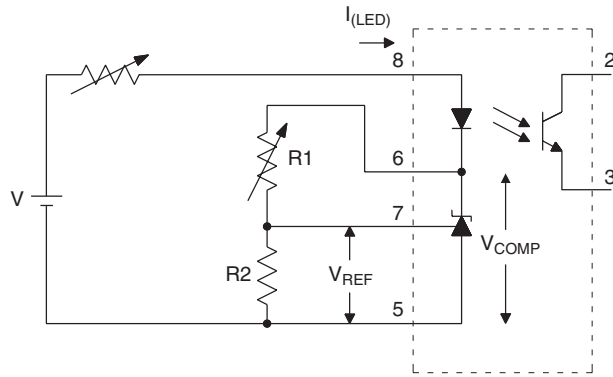

FIG. 2.  $\Delta V_{REF}/\Delta V_{COMP}$  TEST CIRCUIT
2. The dynamic impedance is defined as  $|Z_{OUT}| = \Delta V_{COMP}/\Delta I_{LED}$ . When the device is operating with two external resistors (see Figure 2), the total dynamic impedance of the circuit is given by: